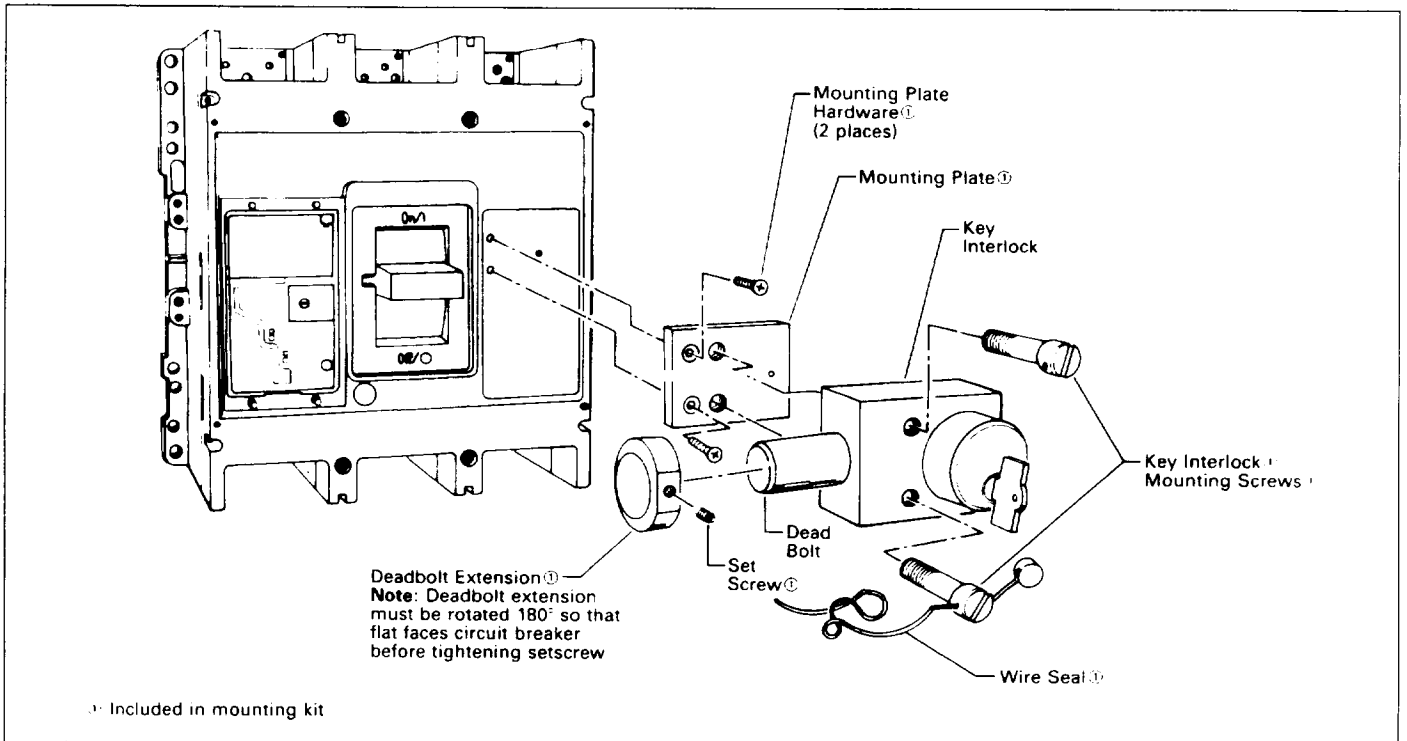

Fig. 2-2 Key Interlock Installation
- 2-3. Position mounting plate on circuit breaker cover. Align mounting holes (see Fig. 2-2). Align pin in plate with corresponding hole in cover.
- 2-5. Assemble deadbolt extension to deadbolt with flat area towards circuit breaker. Secure with setscrew provided. (Fig. 2-2.)
- 2-6. Position key interlock (deadbolt in withdrawn position) on base mounting plate. Align mounting holes. (Fig. 2-2.)